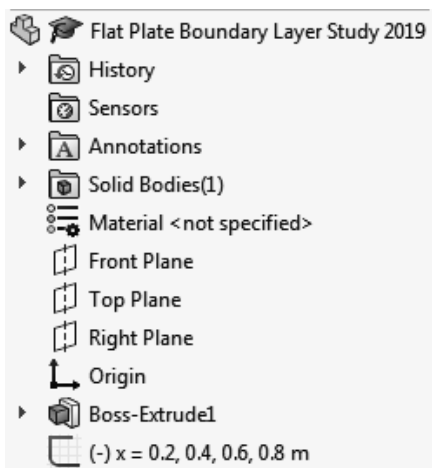

Figure 2.8 Renaming the sketch for boundary layer velocity profiles
8. Repeat steps 6 and 7 three more times and add three more vertical lines to the sketch: the second line at  $X = 400$  mm with a length of 40 mm, the third line at  $X = 600$  mm with a length of 60 mm and the fourth line at  $X = 800$  mm with a length of 80 mm. These lines will be used to plot the boundary layer velocity profiles at different streamwise positions along the flat plate. Close the **Line Properties** dialog ☒ and the **Insert Line** dialog. Save the SOLIDWORKS part with the following name: **Flat Plate Boundary Layer Study 2019**. Rename the newly created sketch in the **FeatureManager design tree**; see figure 2.8. You will need to left click twice to rename the sketch.